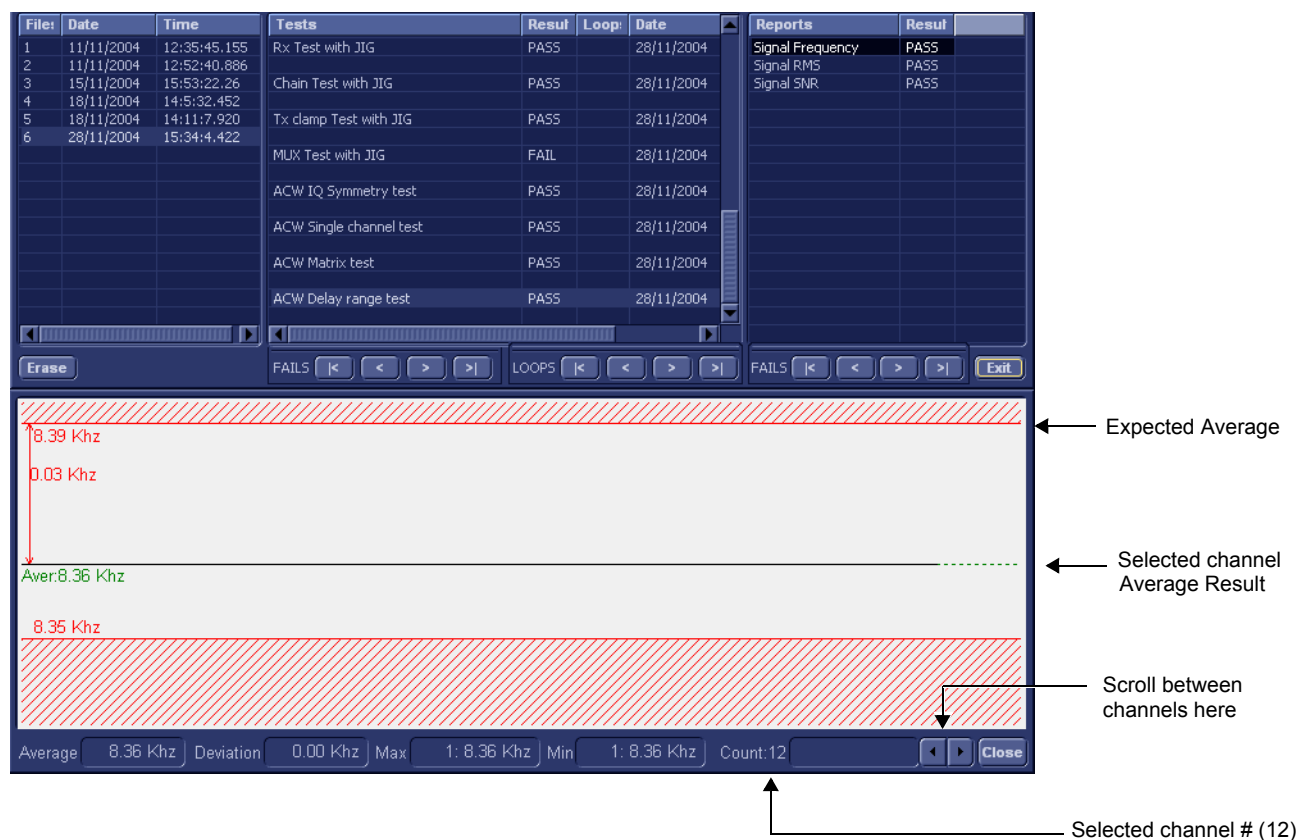

Figure 7-42 View Test Log - ACW Delay Range Test - Signal Frequency
- the View Test Log window opens automatically, listing all tests performed and showing details of which tests passed or failed, as shown in the example in Figure 7-42.
Note: The ACW Delay Range Test test has three test reports (*Signal Frequency*, *Signal RMS*, and *Signal SNR*) which are listed in the *Reports* window on the right. By default, the *Signal Frequency* report is displayed in the Reports window below (Figure 7-42).
The signal should be within the limits marked in the white area (the dotted line represents the Average), as shown in Figure 7-42.